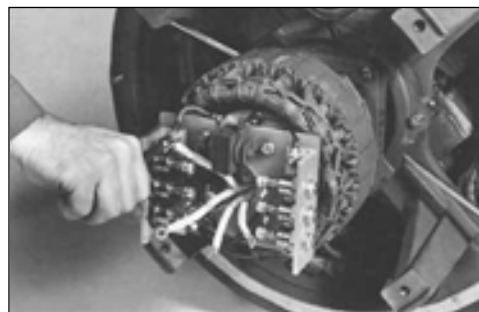

Figure 6-43
2. Observe the polarity markings and connect the main rotor leads to the rectifier assembly (figure 6-43). Torque the nuts to 4 ft-lb (5.4 N-m).